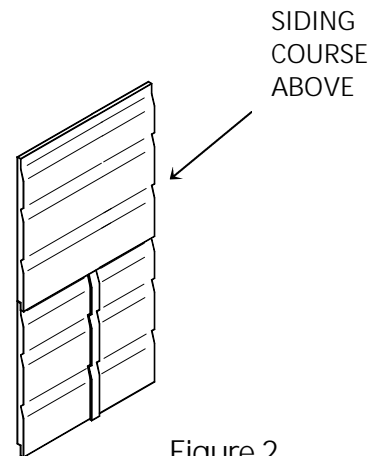

Figure 2
2. This nail is usually placed so as to be covered by the course above. Nail should have minimum 1/8" head, and be of sufficient length to penetrate the stud by at least 1/2". See Figure 2.